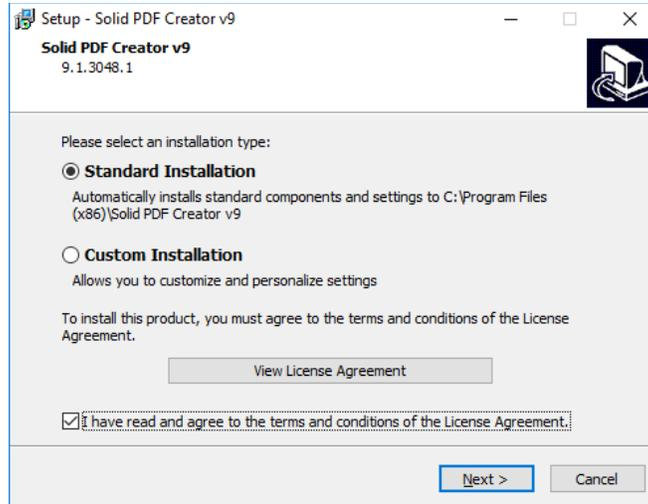

Figure C-3 Solid PDF Creator Setup
- 5) Select *Standard Installation* and check “I have read and agree to the terms and conditions of the license Agreement” to agree the license and click *Next* to start installing the *Solid PDF Creator*. See Figure C-3